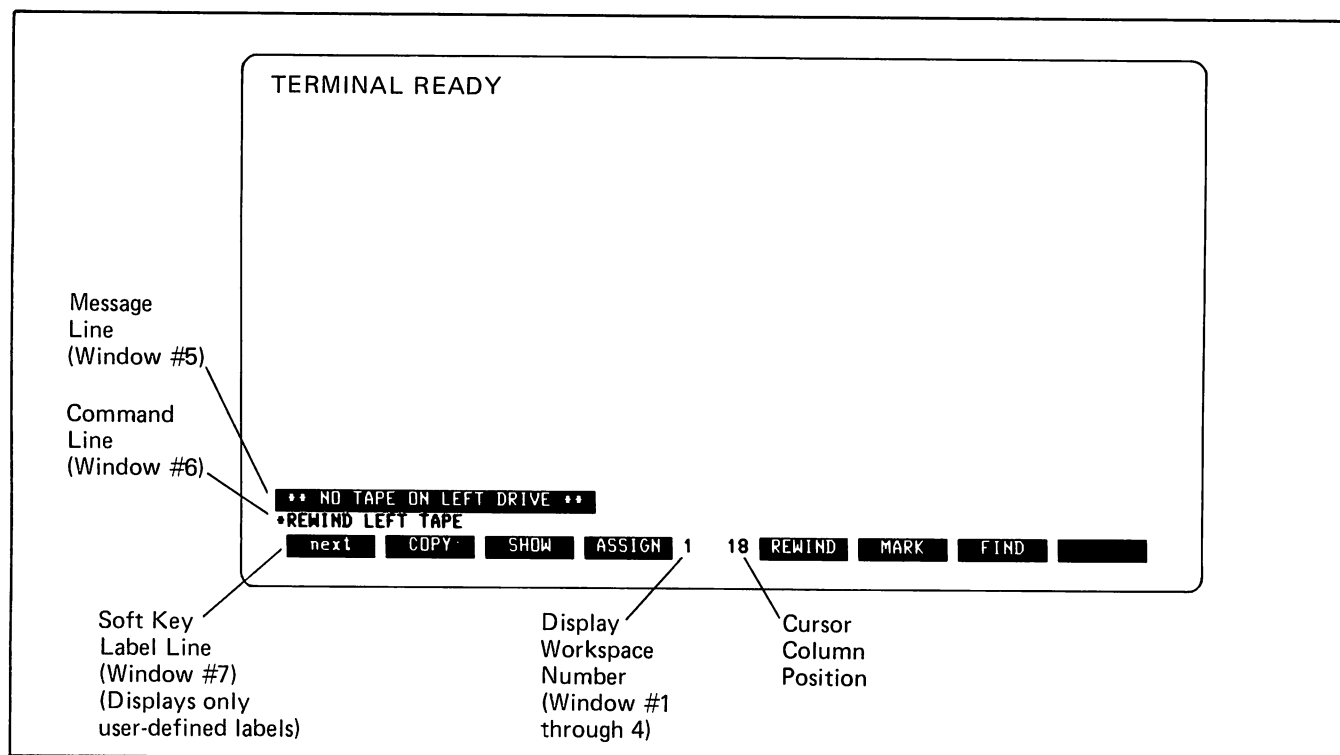

Figure 2-1. Display Features
**Display Window Control.** Alphanumeric display memory is shared by four dynamic display workspaces (window#1 through #4), a message line (window#5), a command line (window#6), and a soft key label line (window#7). These "windows" are controlled through the command channel. (Figure 2-1 shows the display features.)